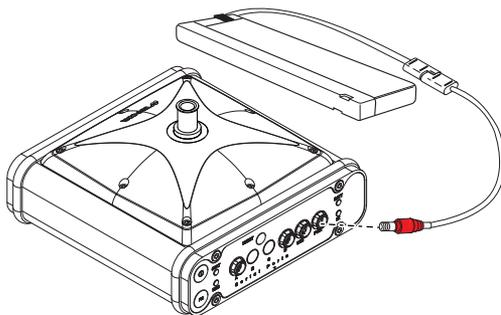

Figure 2-12. External Battery Connected to Receiver
**To connect the receiver to an external battery**, use the receiver power cable and the accessory battery (Figure 2-12).